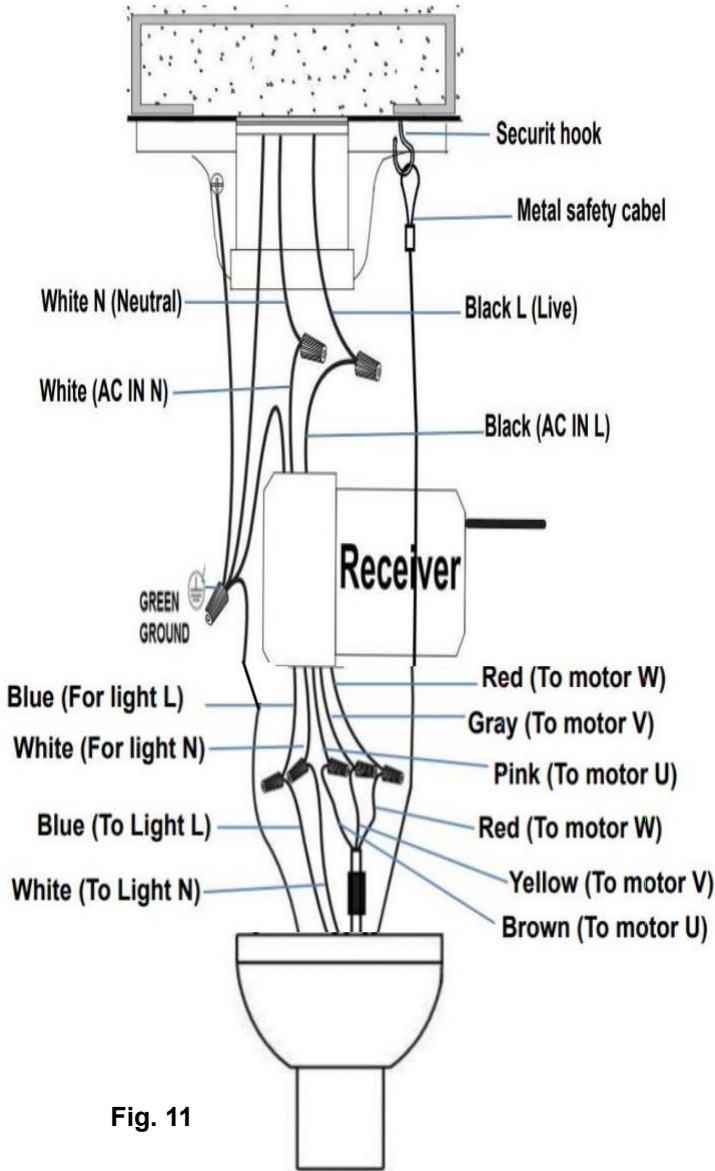

Fig. 11
- Complete the electrical wiring according to the 'ELECTRICAL WIRING DIAGRAM' section below. (Fig.11)
1. Connect the household live supply wire (black) to receiver input wire (black, AC IN L) as shown in (Fig. 11)